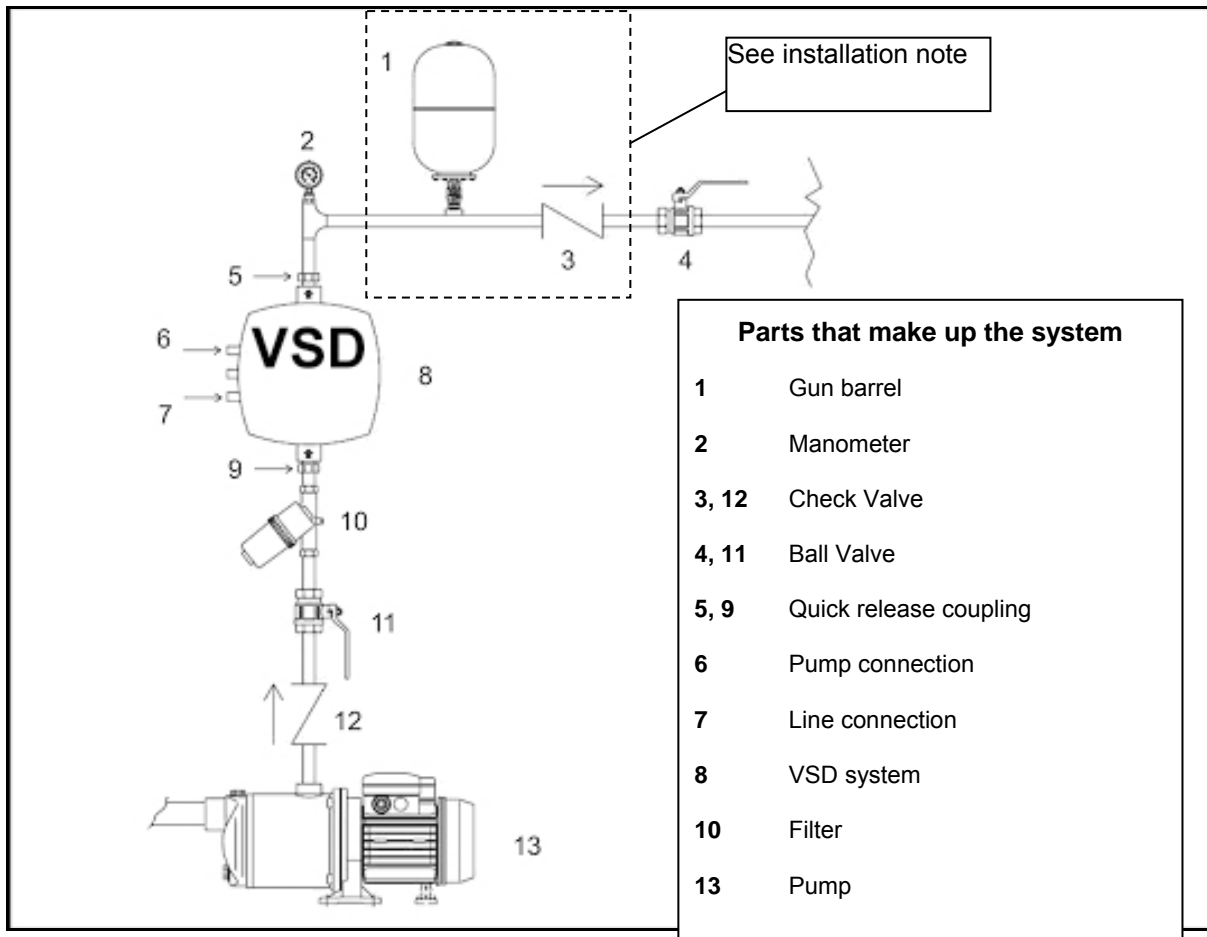

Figure 1: Hydraulic diagram
Always install a check valve on the pipe between pump and VSD as shown in Figure 1 part n° 12.
We recommend installing another check valve after VSD and an expansion Tank between the check valve and VSD (see Figure 1 part n°1 and 3), on all Installation on which there's a possibility to have water hammering (e.g. irrigation whose flow is unexpectedly blocked by the check valve). The check valve between pump and VSD mentioned above (12) is **necessary**.